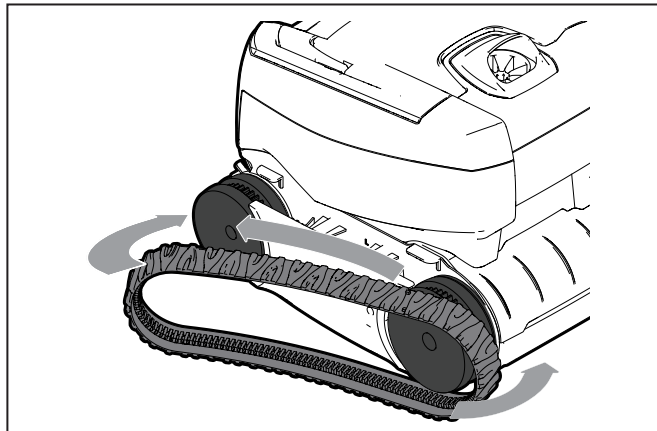

Figure 25. Stretch Track Around Wheels
3. To install a new track, place the inside rib of the track into the groove in the first wheel. (See Figure 25).
4. Stretch the track around the second wheel (see Figure 25). Push and position the rib of the track so that the track is seated properly in the groove of the wheel.